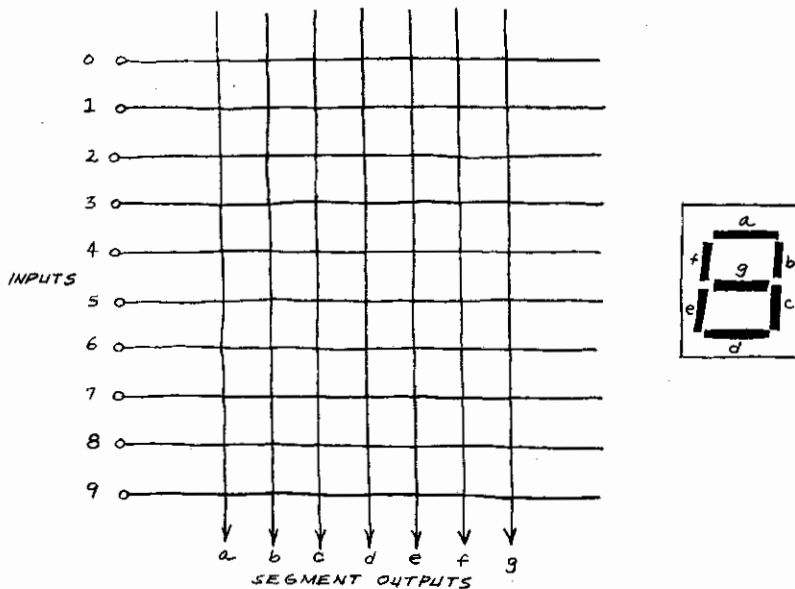

Fig. 5. Seven-segment display character generator diode PROM.
**Diode PROM Character Generator.** Do you want to gain some hands-on experience with PROM's? Then invest some spare time and about three dollars building the diode PROM shown in Fig. 5. This simple PROM is connected as a seven-segment character generator. It allows you to generate up to ten characters including the digits 0 through 9, many letters of the alphabet, and a variety of unusual symbols.